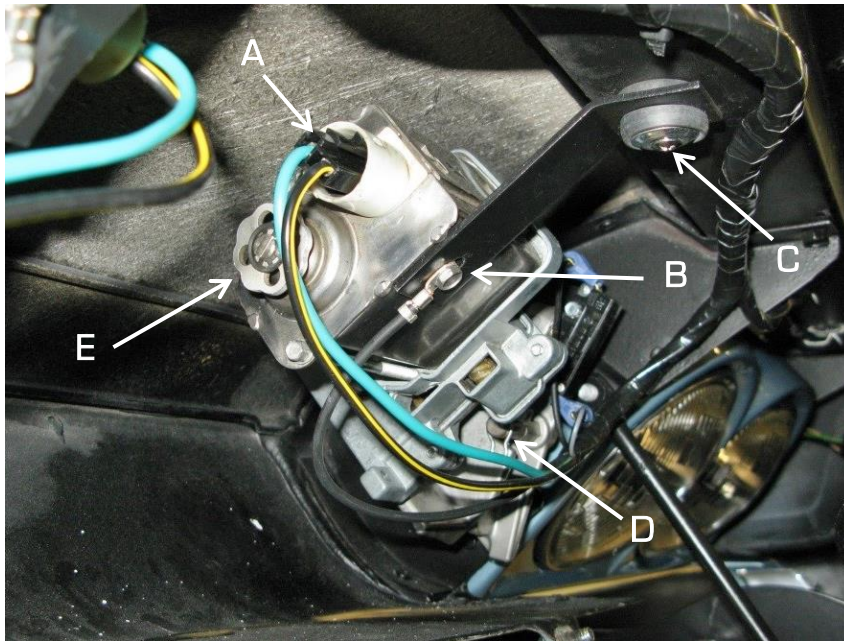

Figure 2 – Remove OEM Motor
1. The new headlight kit will be connected to the existing 30 Amp circuit breaker for the original electric headlight door system that is located under the dash in the driver's side A-pillar/ kick panel area (Figure 2 on the next page). This circuit breaker will need to be located and the original headlight door system power wire will need to be disconnected leaving the battery feed connected to the circuit breaker. There are several circuit breakers in this area that look the same so you will need to disconnect the circuit to determine which one is the correct circuit breaker. Disconnect the battery and look at the circuit breakers under the dash to try to determine from the wire routing which one is connected to the headlight door system.